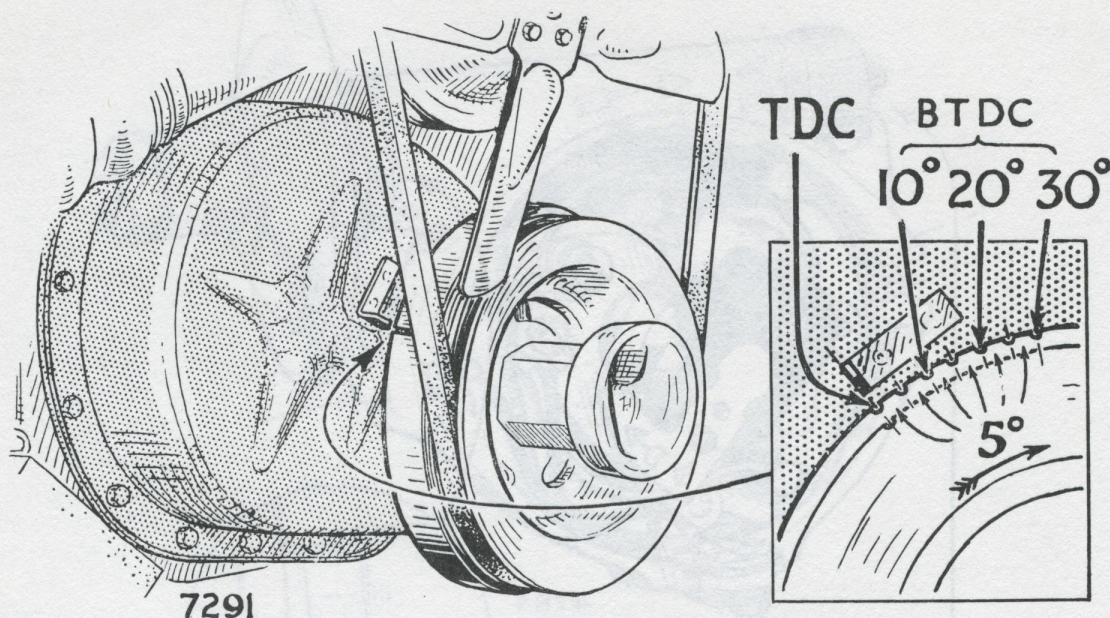

Fig. 13. No. 1 and 4 cylinder T.D.C. pointers—Insert shows T.D.C. to 30° B.T.D.C. timing marks added from Rapier Series IV and later Alpine Series III.
Fig. 13 shows the T.D.C. pointer on the timing case and the T.D.C. line on the damper rim opposite to each other.
If the 5° spaced timing marks exist, they should be used to set the engine to the static ignition timing angle B.T.D.C. See inset of Fig. 13.
**Note:** If the damper rim has a number of  $5^{\circ}$  spaced timing marks as shown in the inset of Fig. 13 it will not be necessary to mark off the metric measurement equivalent for  $11^{\circ}$  because this angle can be read off directly on the damper rim using the timing marks. The marks are spaced at  $5^{\circ}$  intervals.